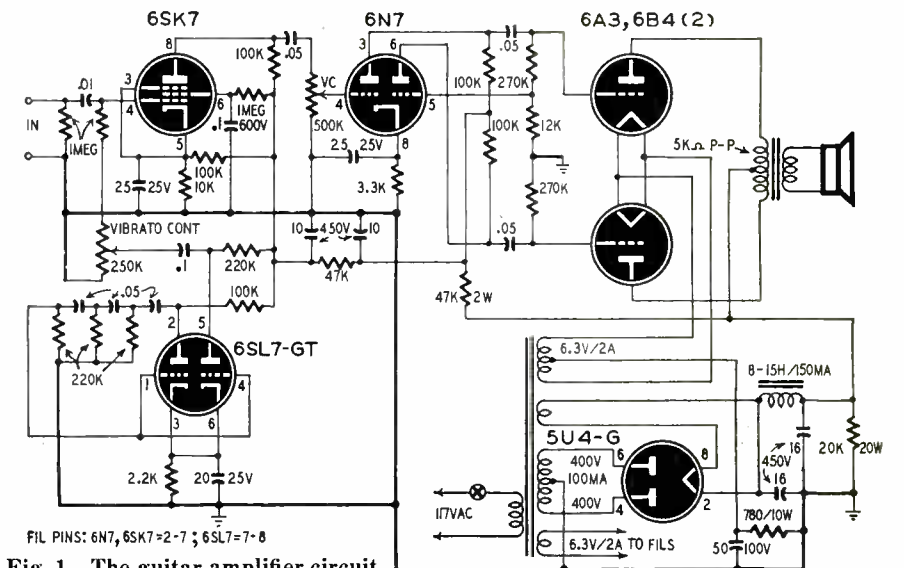

Fig. 1—The guitar amplifier circuit.
A. The amplifier circuit is shown. The phase inverter and push-pull output stages are conventional. The variable-gain stage is a 6SK7, two methods of controlling its gain being shown. In Fig. 1, the 6-cycle a.c. sine wave is applied to the control grid of the 6SK7 along with the signal to be amplified.